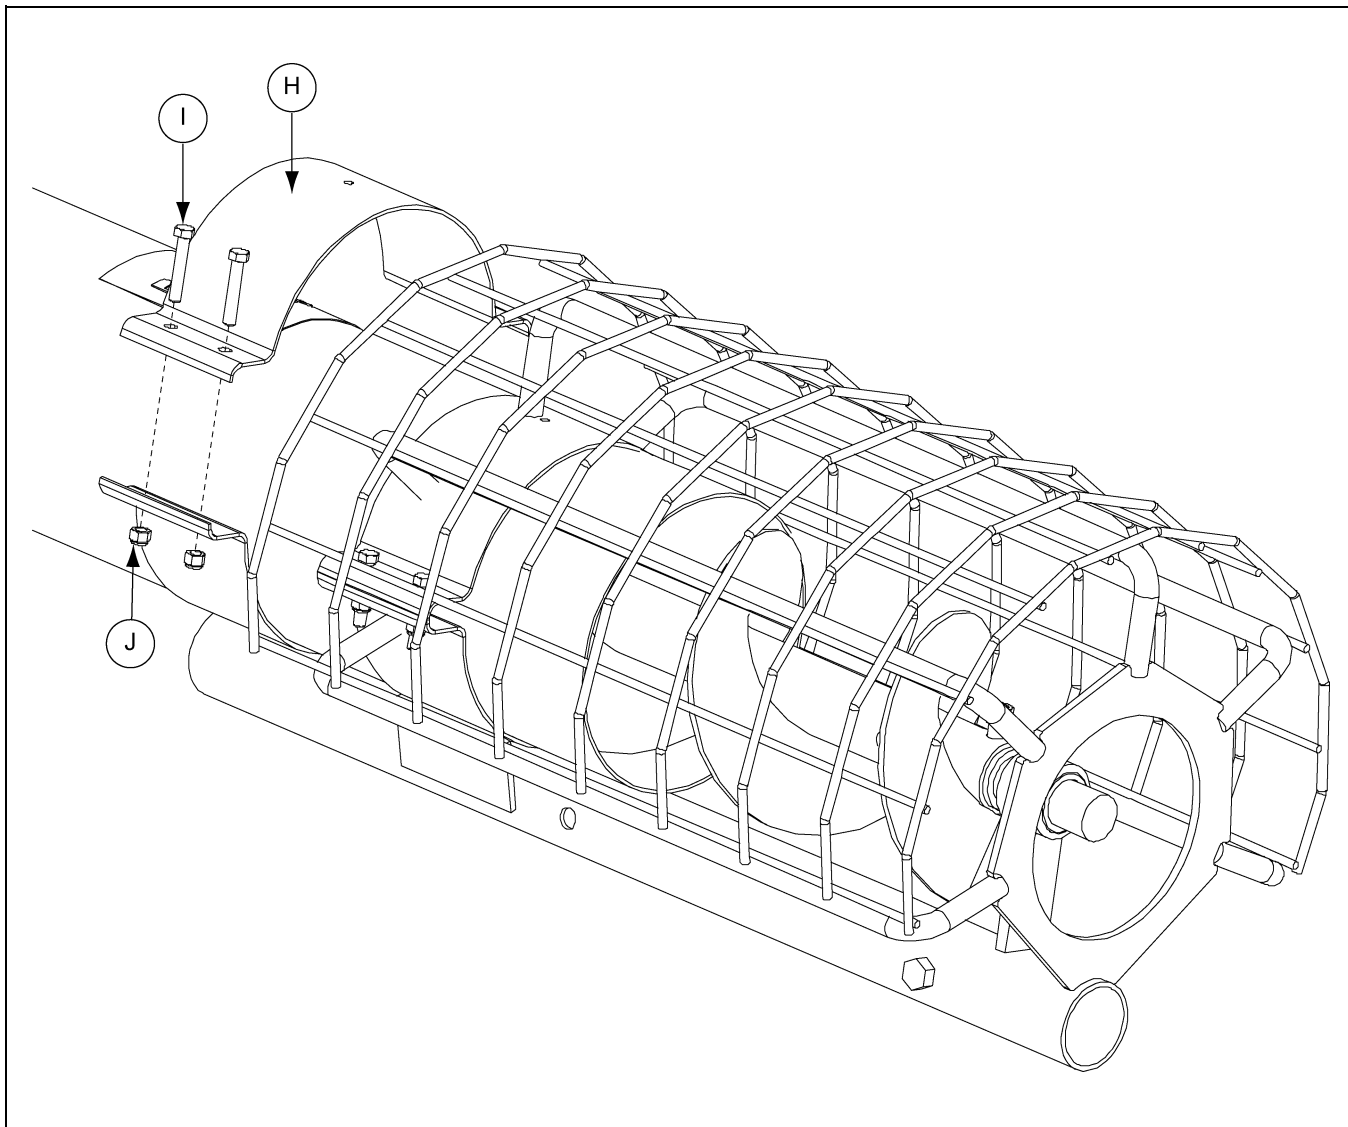

Figure 4J
4. Place intake guard half band (H) above the lower half band on the intake guard (C) and attach using proper hex bolts (I) and nylock nuts (J). (See Chart on Page 22 and See Figure 4J.)